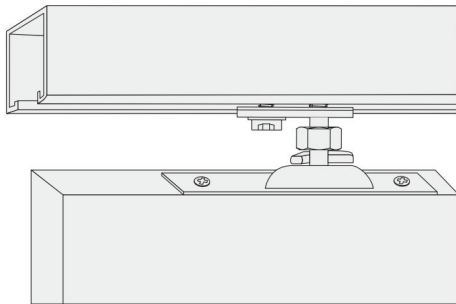

Figure 22
- **Step 1:** Insert the long screw head on the upper pivot into the short/long mount plate as shown (Figure 22). Insert the screw head on the roller into the short/long mount plate as shown (Figure 22)